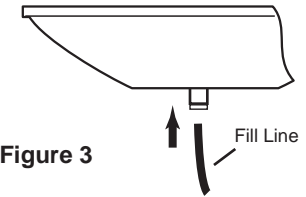

Figure 3
4) Firmly push the end of the Fill Line into the Push-in connector on the bottom of the Basin (Figure 3). It should push in approximately 1/2 inch. After insertion, pull back slightly on the tubing to make sure it is firmly seated.